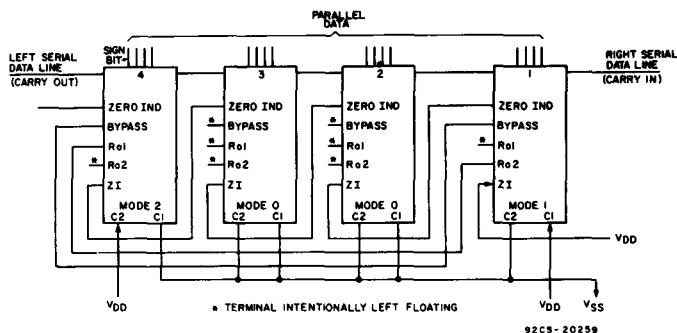

Fig. 11 — Connection for 16-bit arithmetic logic unit.
Data-flow interruptions are shown by shaded areas. With these three ALU's and the four available modes, 61 more system combinations can be formed. If 4 ALU's are used, 4⁴ combinations (256) are possible. Fig. 11 shows a diagram of 4 CD4057A's interconnected to form a 16-bit parallel processor.
The condition of "all zeros" is indicated by a "1" on the Zero Indicator terminal of the "Most Significant" CD4057A. As shown in Fig. 11, terminal Z1 of the CD4057A containing the least significant set of bits is connected to VDD. Zero indication is independent of modes.